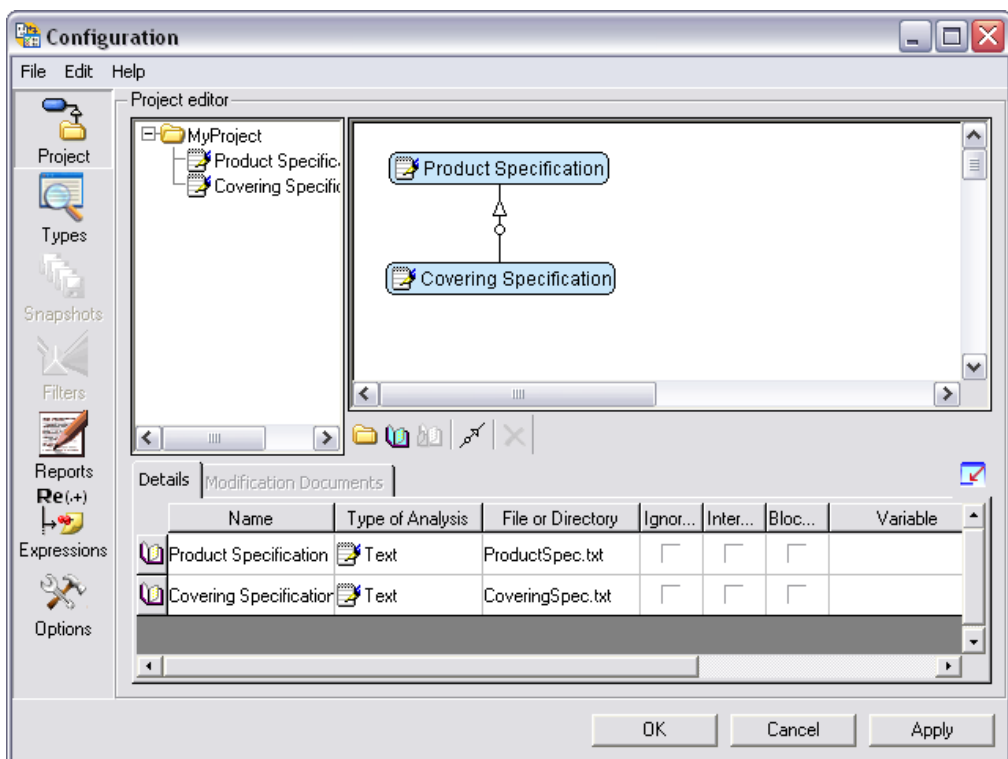

Figure 2-3. Covering Document in Project
3. Click the **Add a cover** button, shown at left. The cursor moves to the Traceability Description Zone. Click the **Covering Specification** document and then click the **Product Specification** document. An arrow appears between the two documents, as shown in Figure 2-3. The arrow indicates that the Covering Specification document covers the Product Specification document.